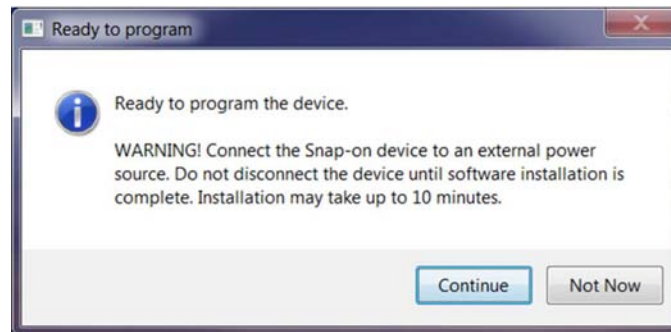

Figure 8-8
3. After the download is complete, the installation confirmation message is displayed. Select **Continue** to proceed with the software upgrade installation (Figure 8-8).